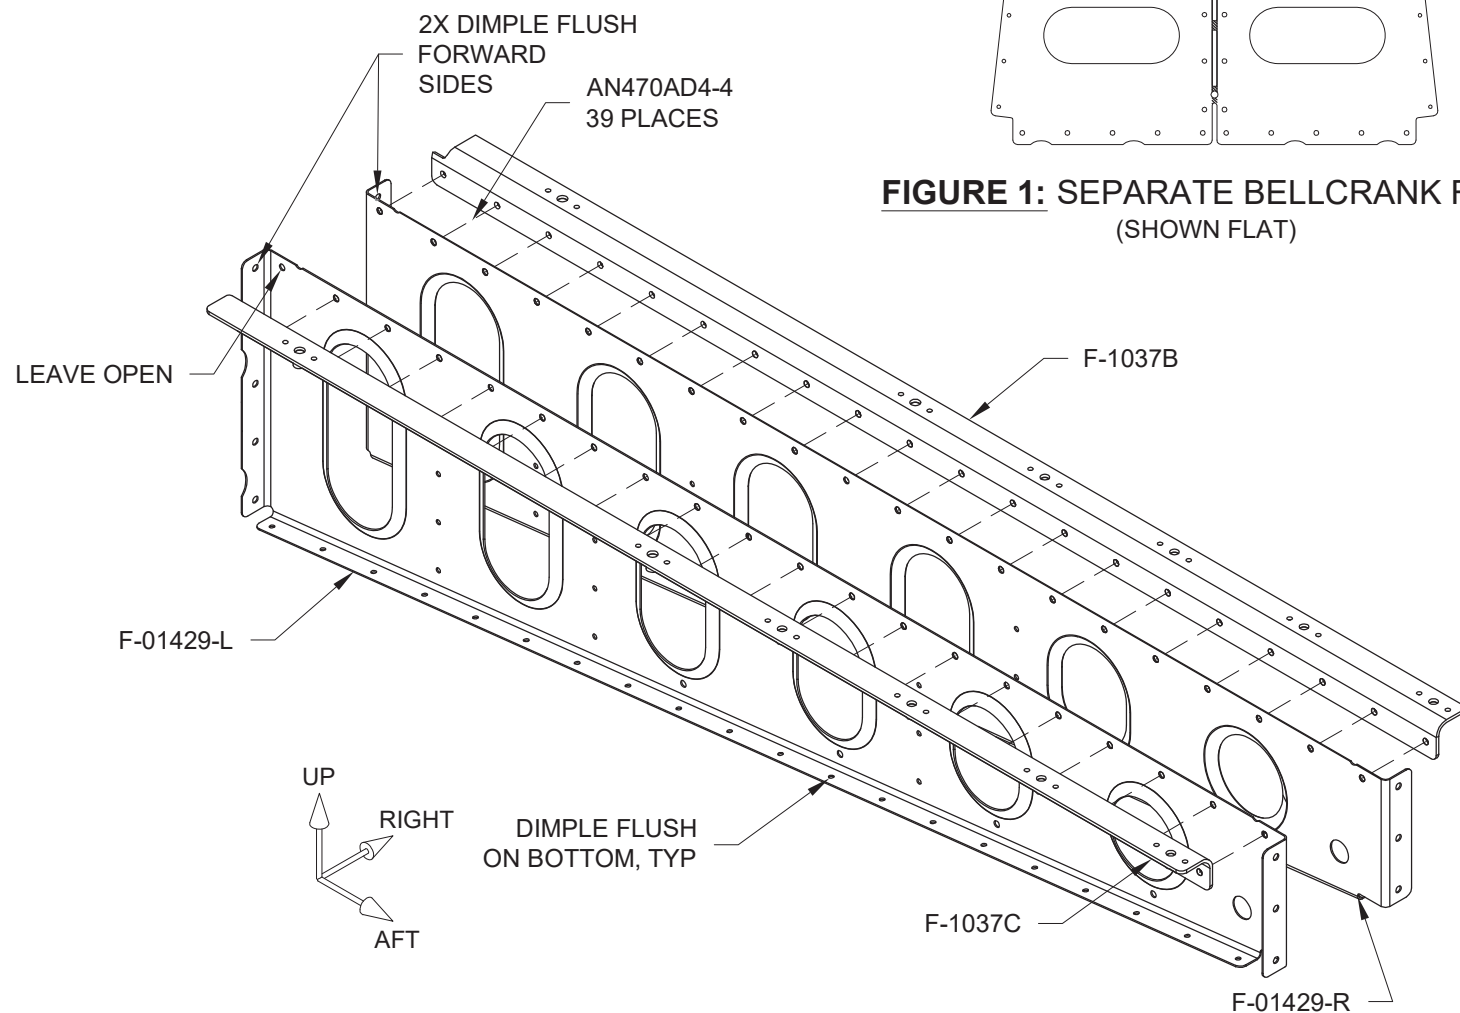

FIGURE 2: BATTERY ANGLE AND BELLCRANK RIB ASSEMBLY
NOTE: Leave the forward hole on the left side open as shown in Figure 2.
Step 5: Rivet the F-1037B and F-1037C Battery Angles to the F-01429 Bellcrank Ribs as shown in Figure 2.